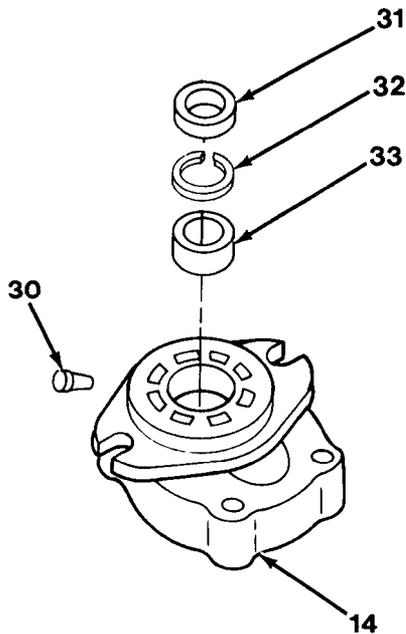

Figure 13-8
11. Remove plug (30), seal (31), snap ring (32) and seal (33) from flange (14, Figure 13-8).
1. Install seal (33), snap ring (32), seal (31) and plug (30) on flange (14, Figure 13-8).